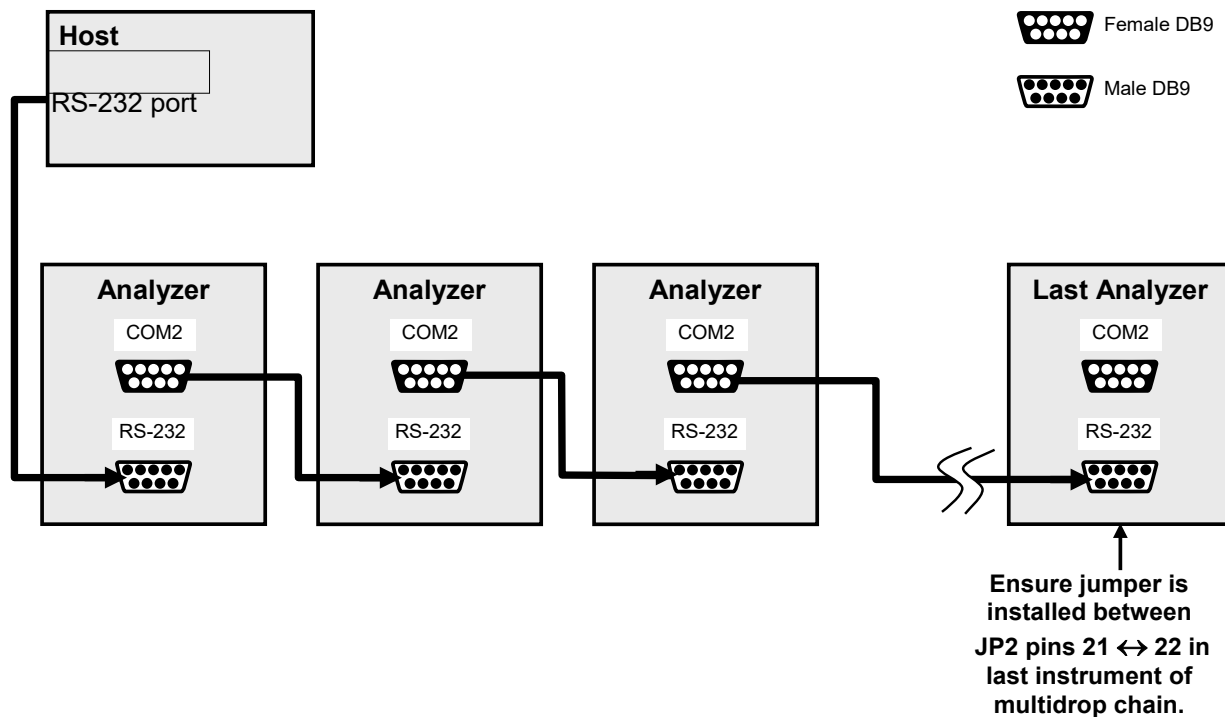

Figure 2-18. RS-232 Multidrop PCA Option Host/Analyzer Interconnect Diagram
5. Referring to Figure 2-18 use straight-through DB9 male → DB9 female cables to interconnect the host RS232 port to the first analyzer's RS232 port; then from the first analyzer's COM2 port to the second analyzer's RS232 port; from the second analyzer's COM2 port to the third analyzer's RS232 port, etc., connecting in this fashion up to eight analyzers, subject to the distance limitations of the RS-232 standard.